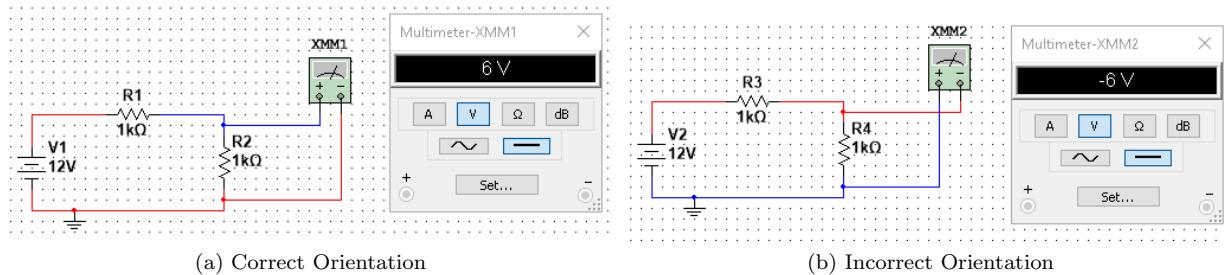

Figure A.15: Orientations for Voltmeter
- The current flowing through the system flows through the positive terminal of the multimeter first, and then the negative terminal. It is important to have this orientation correct in order to ensure the sign of the measurement is accurate. Examples of the two different orientations are seen in Figure A.15.